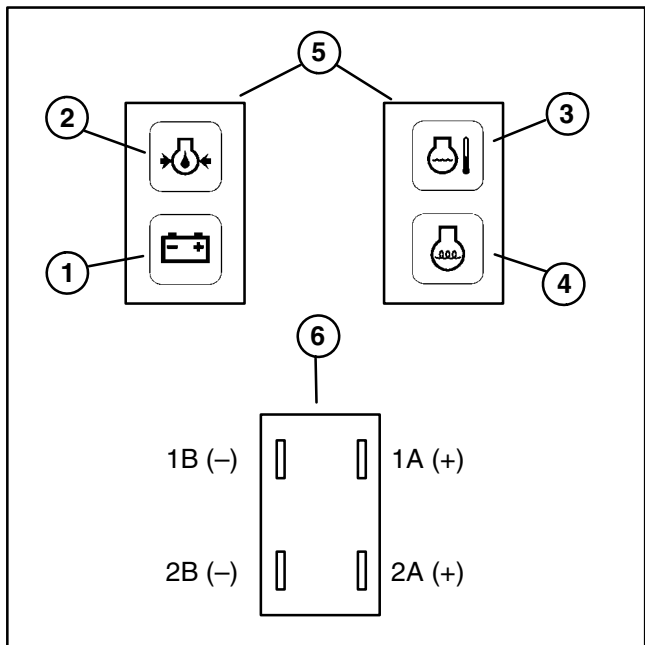

Figure 9
1. Apply 12 VDC to terminals 1A and 2A (Fig. 9).
2. Ground terminals 1B and 2B (Fig. 9).
1. Apply 12 VDC to terminal 1A (Fig. 9).
2. Ground terminals 1B (Fig. 9).